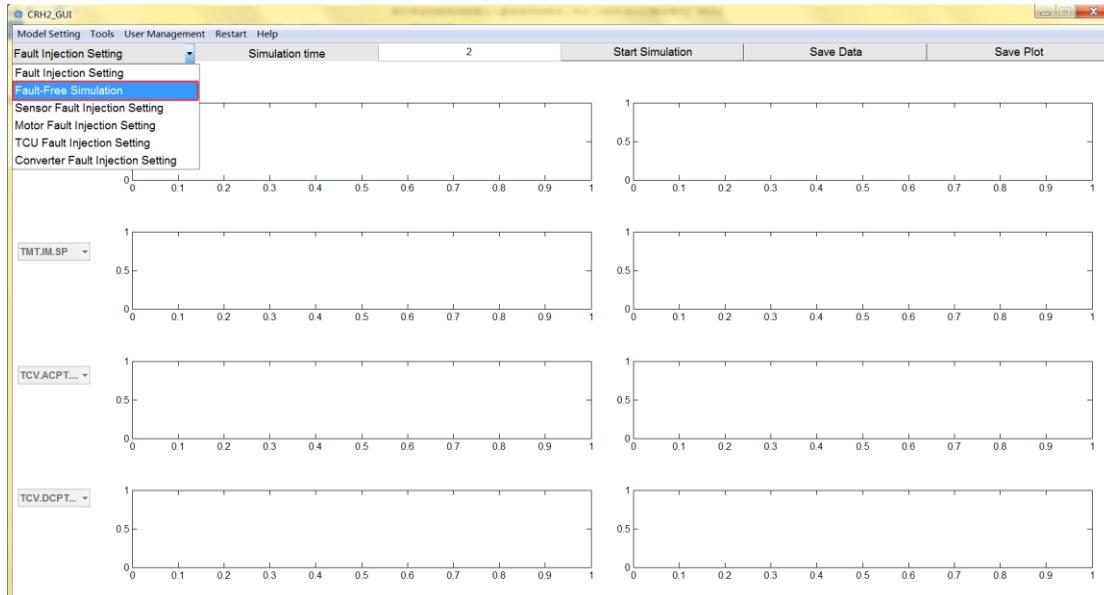

Fig. 44 Select fault-free simulation
① Login the software and select ‘Fault-Free Simulation’ (click the button and wait a minute) as shown in Fig. 44.